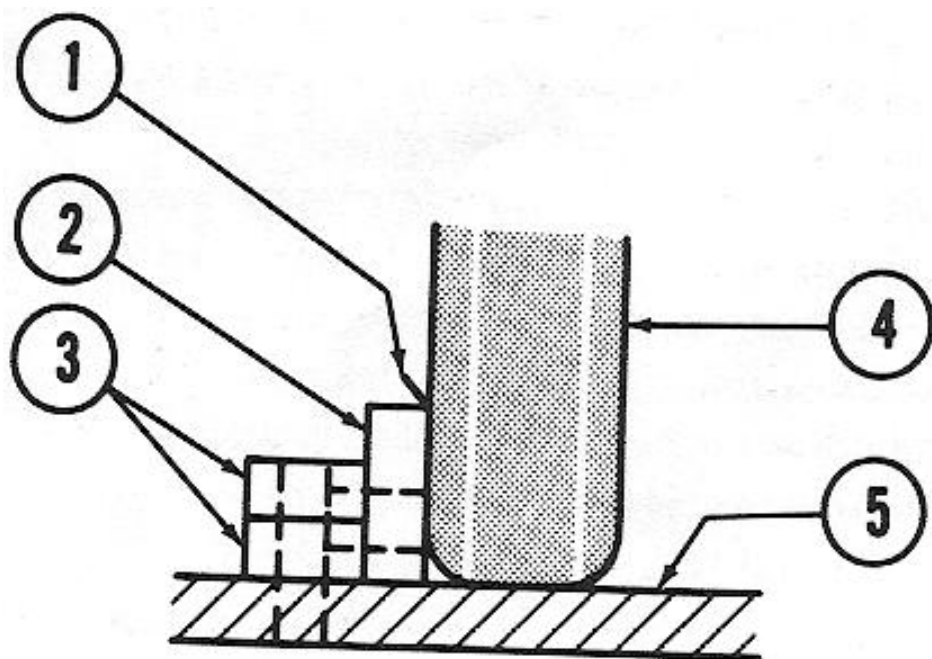

FIGURE 4-3. Wheel side cleats.
- (3) Wheel side cleats. Nail 2 x 6 to 2 x 4 s with six 20-D nails. Place waterproof paper between tire and side cleat. Nail side cleat to flatcar floor with 40-D nails equally spaced. Refer to figure 4-3.